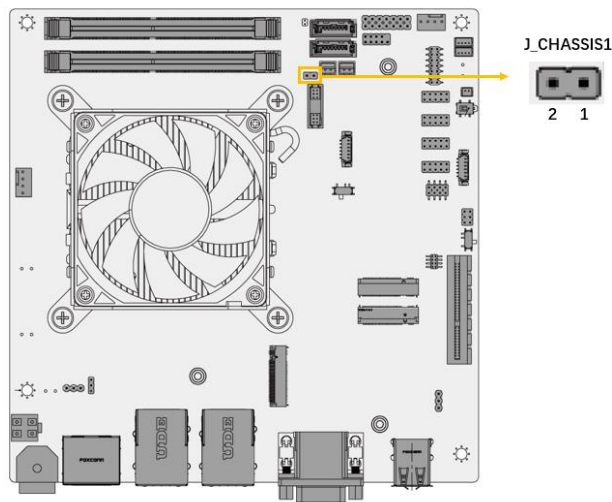

Figure 3-4: Chassis Pin Header Connector Location
- CN Location:** See **Figure 3-4**